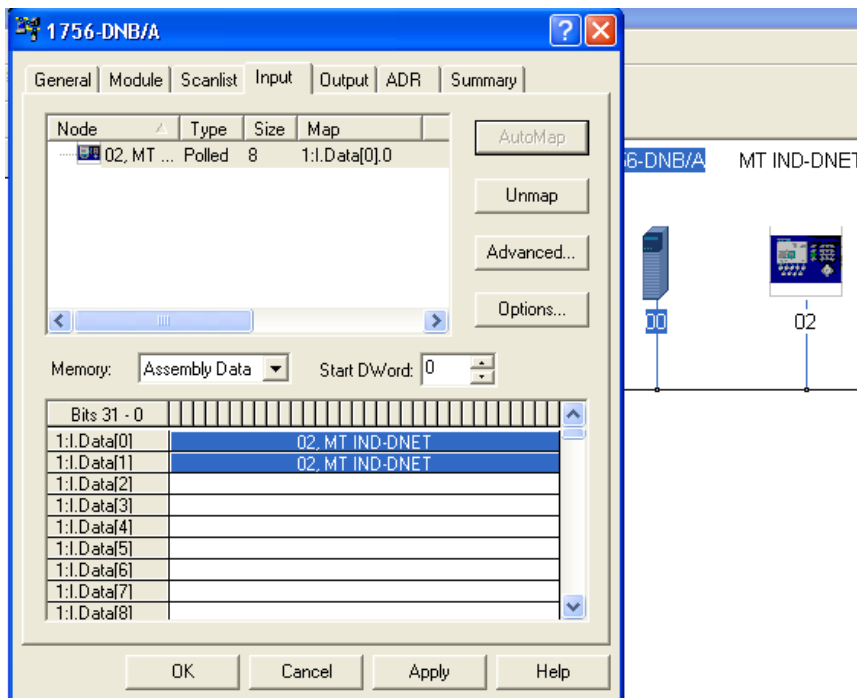
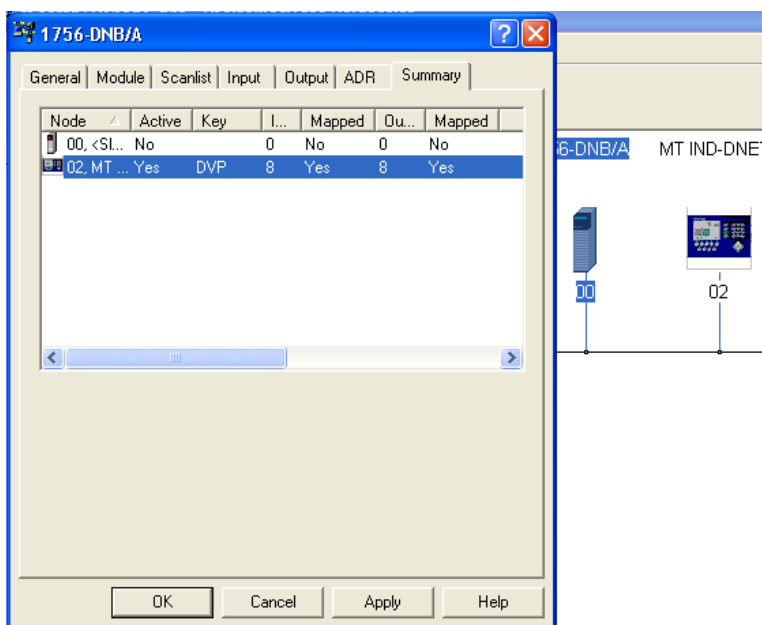

Figure 3-21: IND Terminal Mapping
Figure 3-22: Summary Tab
- Once the IND Terminal has been added to the scanlist, access the Properties dialog to verify its I/O mapping (Figure 3-21 and Figure 3-22) within the scanner card. Note that auto or manual mapping can be used. Consult the master's documentation for advance I/O mapping options. If manual mapping is used. Be sure to start with an unused section of memory for offset.